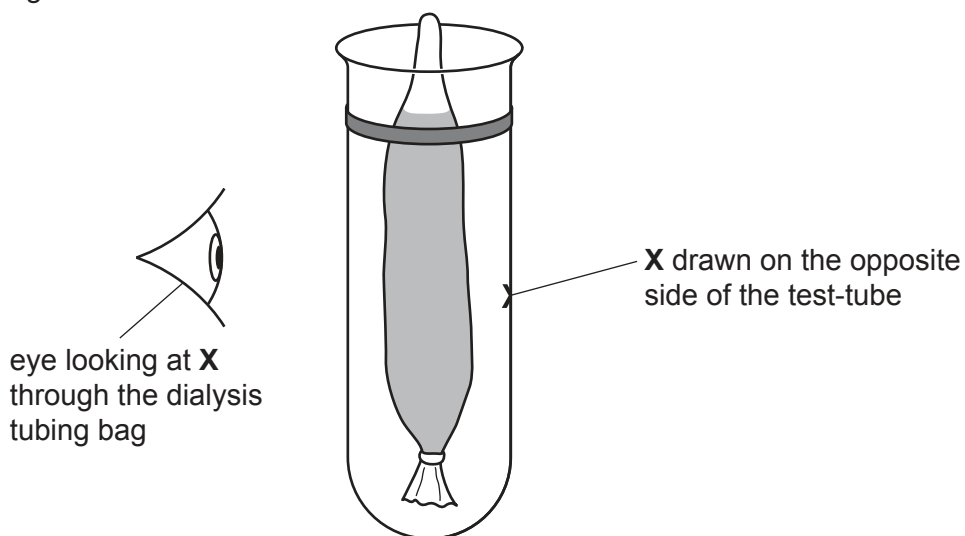

Fig. 1.3
- Step 12 Observe the crosses on the test-tubes by looking through the dialysis tubing as shown in Fig. 1.3.